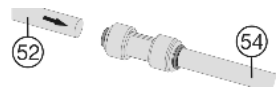

Fig. 24*
► Connect the supplied extension hoses Fig. 24 (54) to the appliance hoses Fig. 24 (52): Slide the appliance hoses into the connectors as far as they will go (approx. 11/16" (17 mm)) (see 12 Installing the water filter*). *